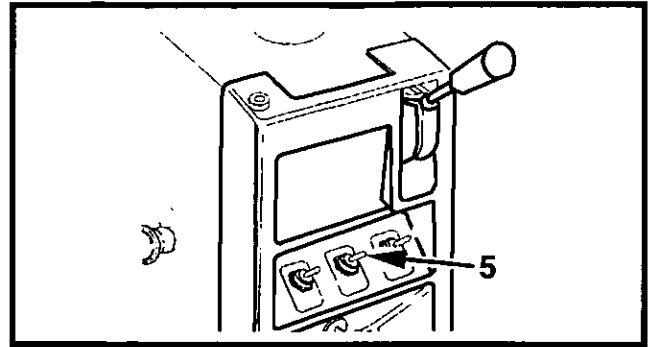

Figure 4-12 Water Control Switch
2. Position the water control switch (5, Figure 4-12) to the  = OFF position.